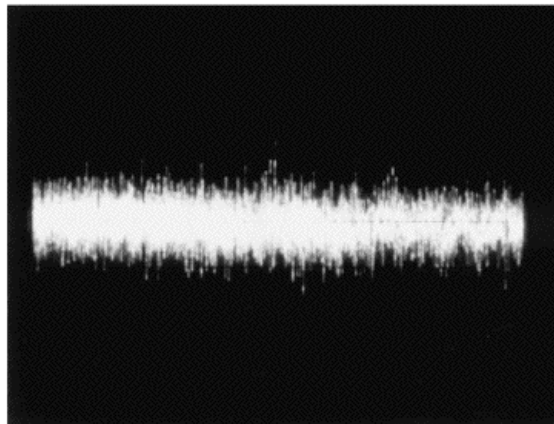

FIGURE 32-30 Take a tracking error waveform at pin 27 of IC211 in Fig. 32-29.
Attach the scope test probe to the tracking-coil offset terminal feeding the tracking drive coil transistors. Now push Play. Notice if for a few seconds a noisy type of waveform is found at this terminal (Fig. 32-30). A noisy type of waveform might indicate that the tracking servo IC is performing. Go to the TE input terminal of the tracking IC (13) if only a white horizontal line is found at pin 27. No TE signal is present with a horizontal white line.